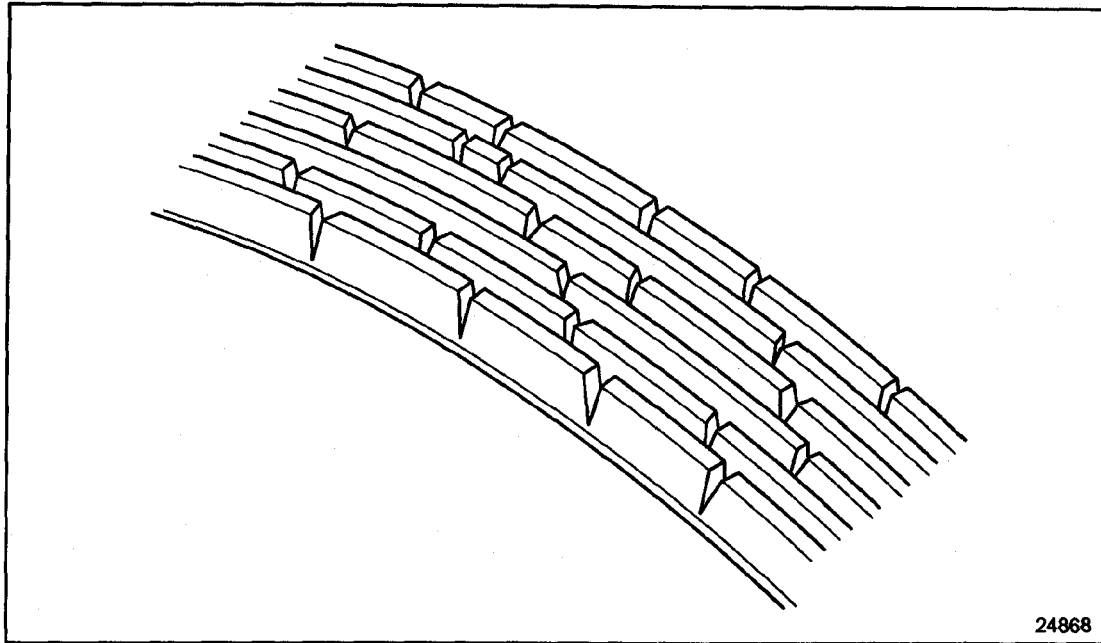
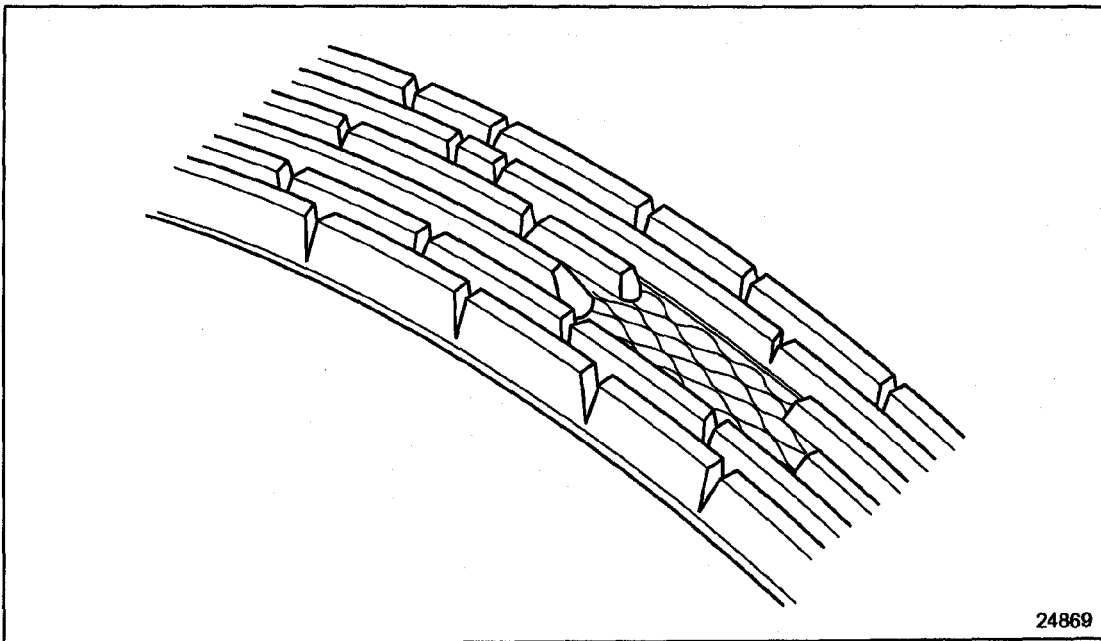

Figure 13-9 Severe Rib Cracking
Figure 13-10 Rib Chunking
- A replacement concern occurs when the belt ribs exhibit severe multiple cracking (see Figure 13-9). This leads to "chunking" (breaking away of rib material). See Figure 13-10.